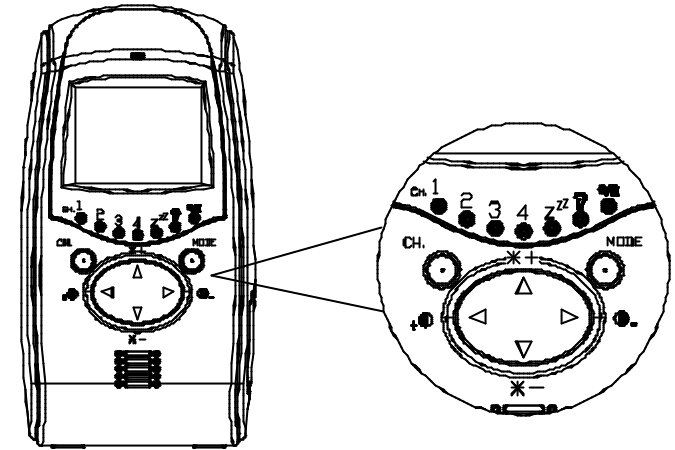

Fig. 14
- a. Audio/video mode: The Monitor is on continuously, emitting sound and image. Under this mode, both  and  LEDs will not illuminate. (Fig. 14)
- b. Audio mode: The Monitor only delivers audio and  LED will light up. (Fig. 14)
3. Channel selection: 4 channels are available by pressing CH selection button on the front of the Monitor. The channel sequence will be rotated once by pressing the button each time. (Fig. 14)
- Brightness/Contrast Ratio Control: The brightness and contrast ratio control for the Monitor can be adjusted by pressing the below button: (Fig. 14)